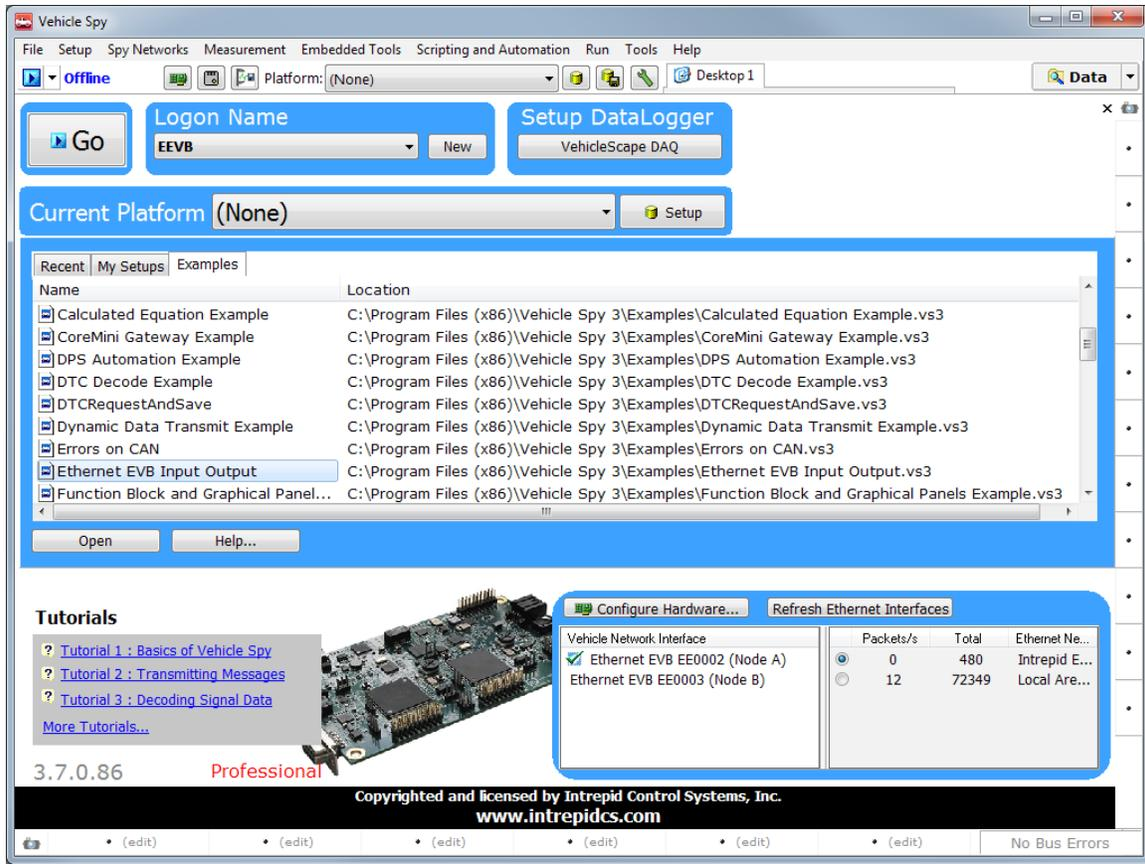

Figure 29: Selecting the Ethernet EVB Demo File in the Examples Tab.
2. **Open the Ethernet EVB Setup File:** The file we are looking for is called **Ethernet EVB Input Output**; depending on your screen size, it may be visible immediately, or you may need to scroll down to find it. Once you do, either double-click it, or highlight it and click the  button just below the example list (Figure 29).